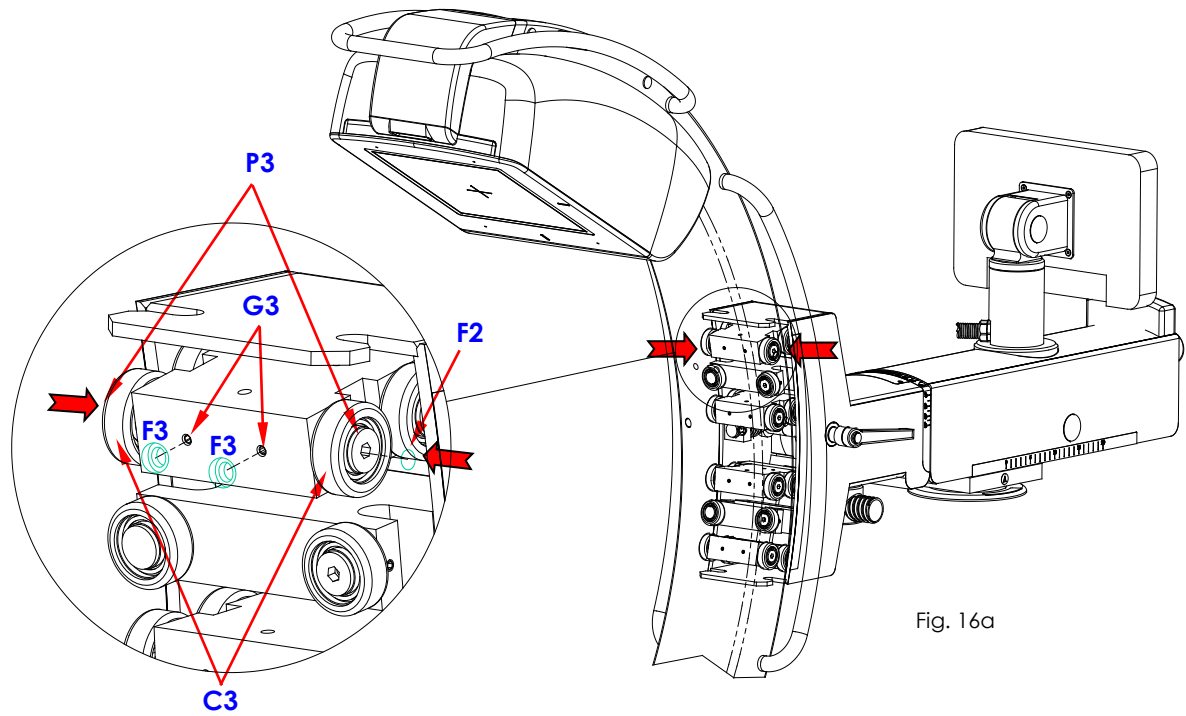

Fig. 16a
- Take the C-arm to the position shown in Fig.16a in order to align the hole (F2) with the eccentric pin on the bearing (C3), while the holes (F3) are lined up with the grub screws (G3) locking the pins.